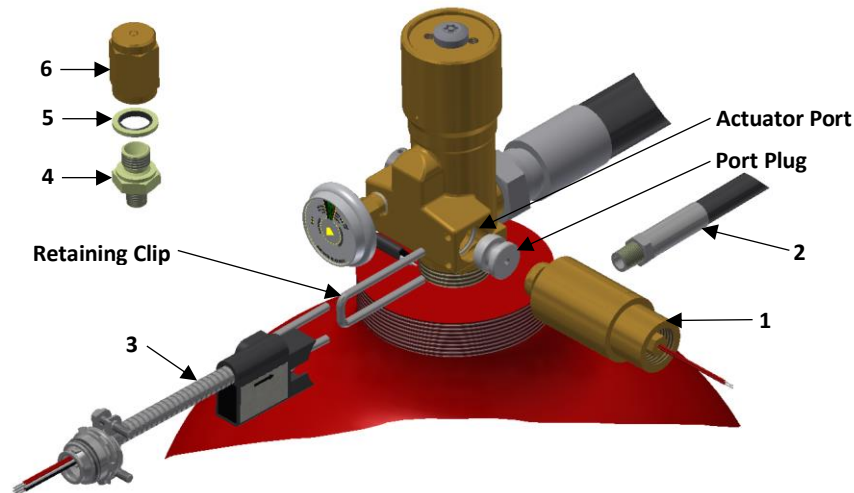

Figure 75 – Connecting UEA to Cylinder Valve
Step 11. Install conduit from item 1 and item 3 to the control panel.
Step 12. Pull wire leads from item 1 and item 3 through the conduit and connect it to the control units releasing circuit and supervisory circuit respectively. See Figures 75 and 77.
Step 13. Insert item 1 into the cylinder valve actuator port and secure in place with item 3.
Step 14. Install items 4, 5 and 6 to the last pneumatic actuator in the cylinder bank. See Section 4.13.8 for installation instructions.